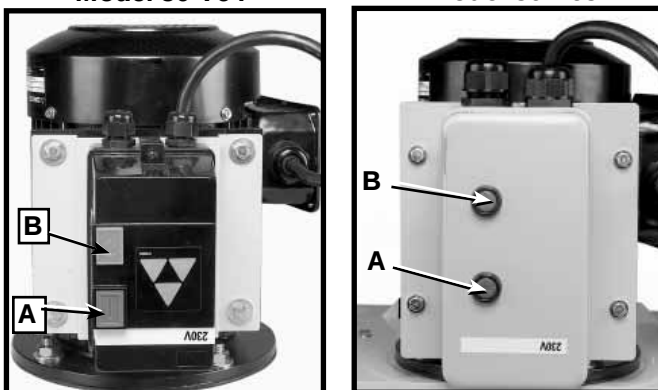
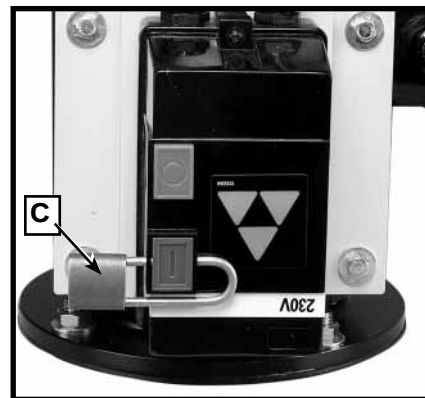

Fig. 17
Fig. 18
- The on (A) and off (B) buttons are located on the front of the motor housing as shown in Fig. 17. To turn the machine "ON", push the "ON" button (A).
- To turn the machine "OFF", push the off button (B).
IMPORTANT: When the machine is not in use, the “ON” button (A) Fig. 17 should be locked to prevent unauthorized use, using a padlock (C) Fig. 18 with a 3/16" diameter shackle through the hole beside the button.